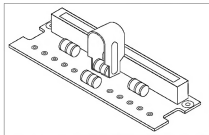

Figure 6. Surge Arrestors and the Insertion/Extraction Tool
4. Using the insertion/extraction tool, grasp and remove a surge arrestor (see Figure 6).